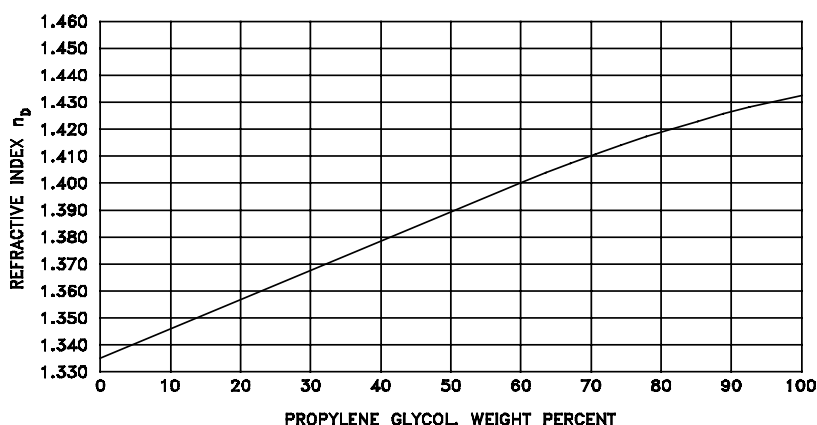

Figure 6. Refractive Indices for Aqueous Propylene Glycol Solution at 77 °F (25 °C)
2. Use the curve of Figure 6 to determine the existing propylene glycol concentration.
4. Fill the reservoir to the full mark with a deionized or distilled water and propylene glycol mixture in the correct proportion for freeze protection, as determined from Figure 6.